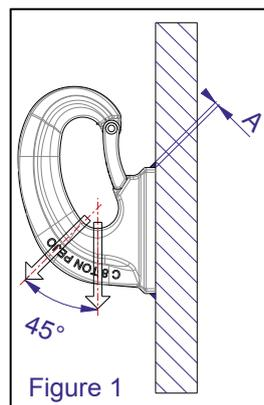
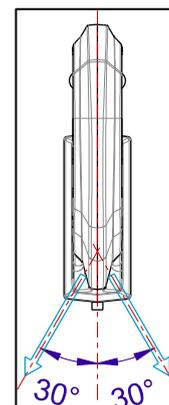

Figure 1
Figure 2
- check for the presence of markings and **obtain and register critical dimensions of figure 2.**
- 1 position the hook ensuring that the load to be lifted is applied to the correct part (figure 1)
- 9 the welding bead must have a minimum dimension as indicated in the table below: (figure 1)
Do not introduce more than one arm into the hook and in this case the maximum angle compared to the vertical must be 45° (figure 1), while angle between force and symmetry plane of the hook has to be lower 30° (figure 2).